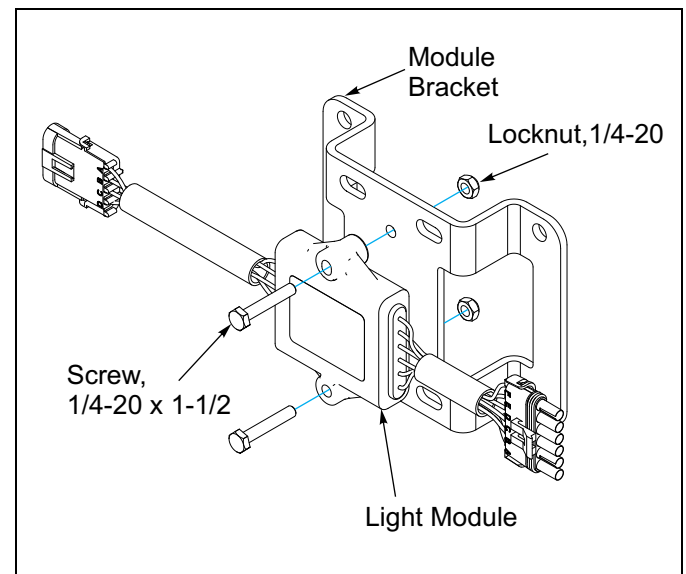

Figure 2-9: Light Module and Bracket
1. Attach both Red LED's to the ends of the light bar using (4) 1/4-20 x 1 1/4 Screws and Locknuts for each lamp.
2. Attach longer Light Bracket to the transmission housing located on the left side of the seeder, using (2) 3/8-16 x 1 1/4 Screws, Lockwashers and Nuts. Attach Amber LED to the outside of the Light Bracket using (4) 1/4-20 x 1 1/4 Screws and Locknuts.
3. On the right side attach the shorter Light Bracket to the angle bracket using (2) 1/2-13 x 1 1/4 Screws, Lockwashers and Nuts. Attach Amber LED to the outside of the Light Bracket using (4) 1/4-20 x 1 1/4 Screws and Locknuts.
4. Attach the Light Module to the Module Bracket using (2) 1/4-20 x 1 1/2 Screws and Locknuts. **See Figure 2-9.**